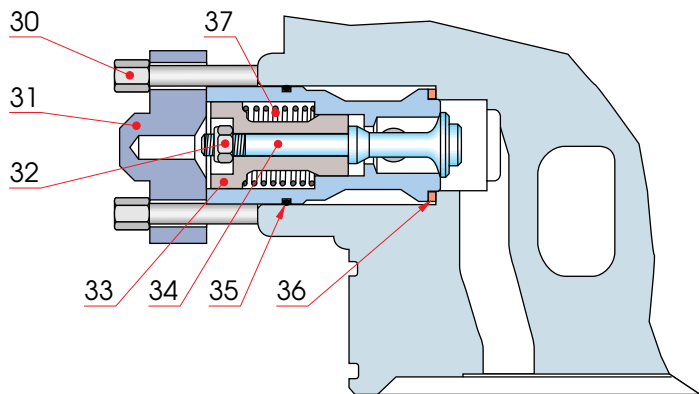

Fig 21-3
The starting air distributor is of the piston type with precision machined interchangeable liners (16). The liners as well as the pistons are of corrosion resistant materials. The distributor pistons are controlled by a cam at the camshaft end. When the main starting valve opens, the control pistons (15) are pressed against the cam, whereby the control piston for that engine cylinder, which is in starting position, admits control air to the power piston (33) of the starting valve, see Fig 21-3. The starting valve opens and allows pressure air to pass into the engine cylinder.